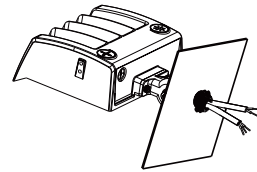

figure 3
Step 3: Loosen screws; Adjust fixture angles as per actual demands and tighten screws later;Angles of the fixture is adjustable (pass the bracket through mounting surface, fix it with screws, then connect the wires as per proper wiring requirements). (figure 3)